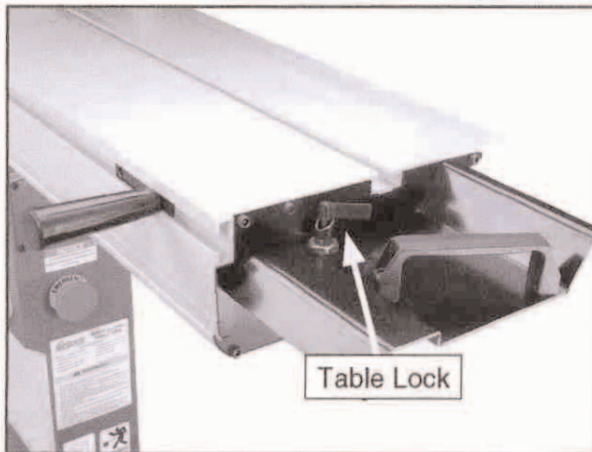

Figure 53. Sliding table lock.
2. Use the table lock (Figure 53) to lock the sliding table into a stationary position. (To lock the sliding table, you have to engage the lock and center the table in front of the machine. The table will automatically lock when it is in the correct position.)